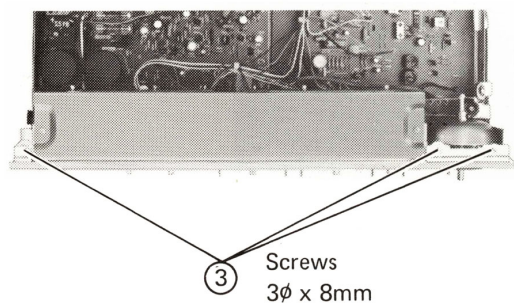

Figure 4
2. Remove three screws ③. See figure 4.